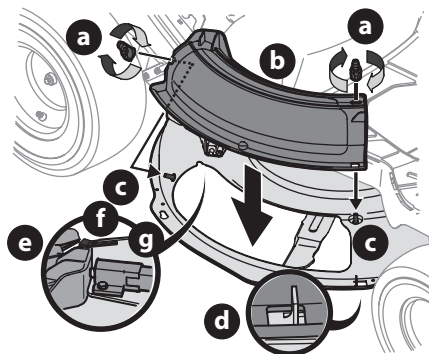

Figure 13
1. Remove the wing knobs (a) installed on the mowing deck and retain for later installation (Figure 13).
2. Install the mulch plug (b) into the deck discharge opening on the deck. The rear of the mulch plug (b) should be under the tab (f) on the rear deck bracket (g). The studs (c) on the deck surface will fit through the holes on the upper portion of the mulch plug (b). The small tab (d) on the deck lip area will fit through the square cutout on the lower portion of the mulch plug (b) (Figure 13).
3. Secure the mulch plug (b) by tightening the wing knobs (a) removed in Step 1 (Figure 13).